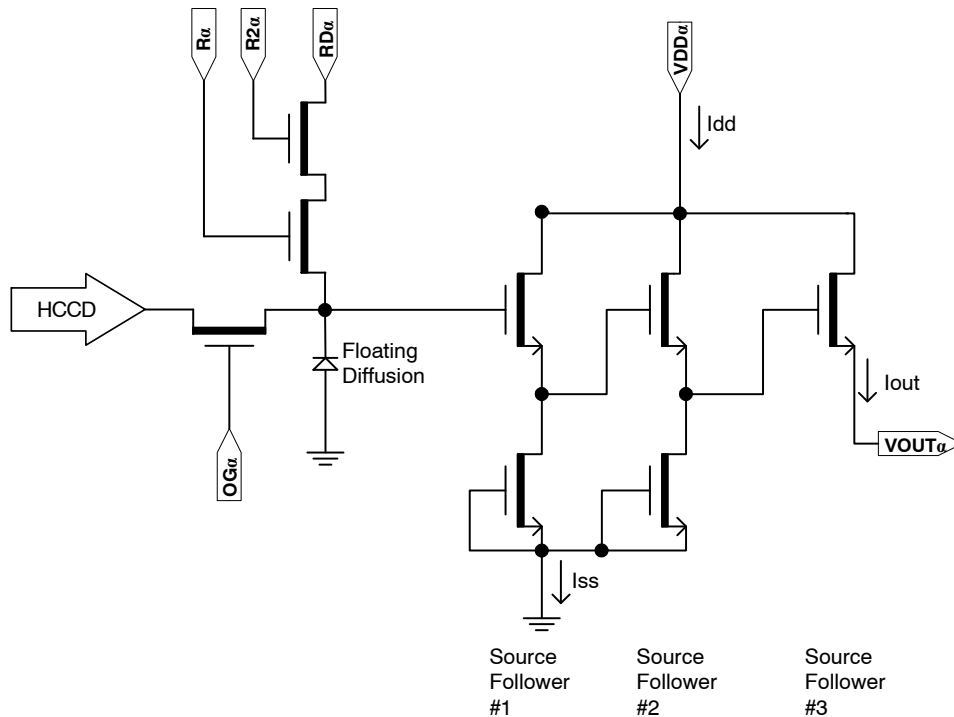

Figure 20. Output Amplifier – Showing Dual Reset Pins
2. The maximum DC current is for one output. I_{dd} = I_{out} + I_{ss}. See Figure 20.